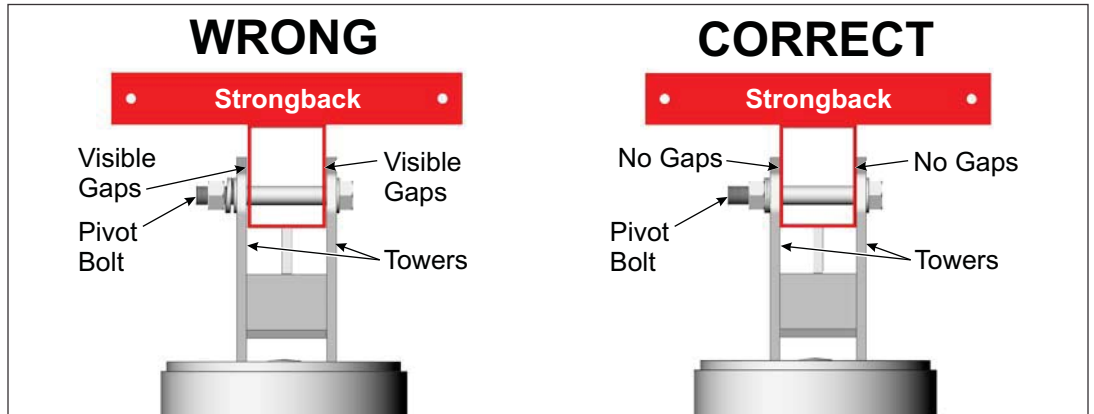

Figure 7-3: Tighten and Torque the Pivot Bolt
- C. Re-Tighten the Pivot Bolt. After changing the tilt angle and tightening the Support Bar hardware, the Pivot Bolt must be re-tightened. The Pivot Bolt cannot be left loose - the Mounting Sleeve Vertical Towers must be firmly clamped to the sides of the Strongback, eliminating any gaps between the Vertical Towers and the Strongback. **Torque to 125-150 ft.-lbs.** (See Figure 7-3)